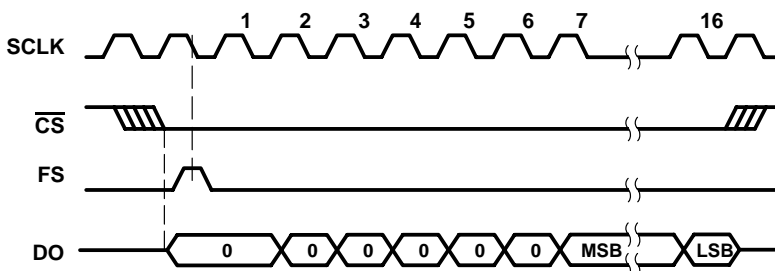
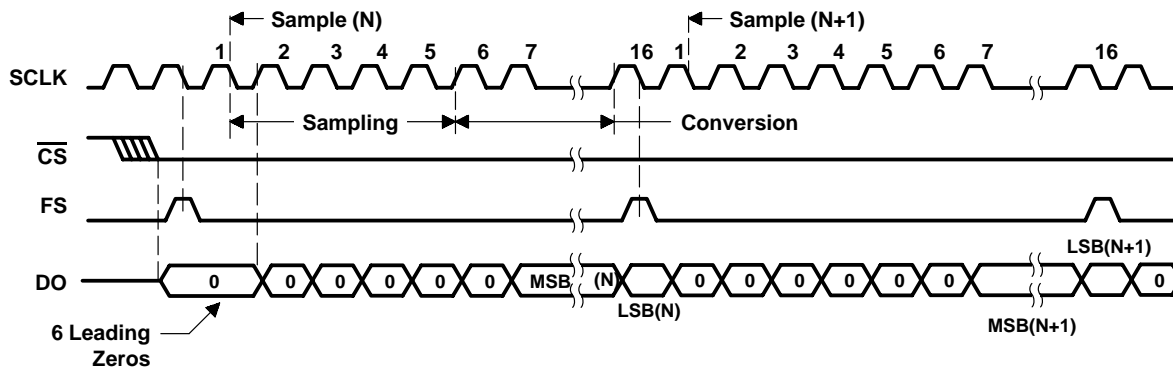
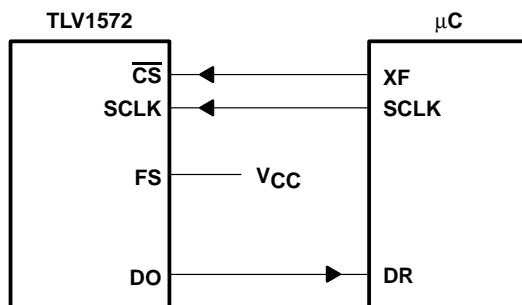

Figure 4. Typical Timing Diagram for DSP Application
Figure 6. DSP Application Timing (Continuous Conversion)
Figure 7. μ C to TLV1572 Interface
The TLV1572 goes into auto-powerdown after the LSB is shifted out. The next FS pulls it out of auto-powerdown as shown in Fig. 6. If the FS comes on the 16th bit, next conversion cycle starts from next rising edge of the SCLK allowing back to back conversions as shown in Figure 7. An FS in the middle of a conversion cycle resets the chip and starts a new conversion cycle. Therefore variable-bit transfer is supported if the FS appears earlier.
For applications where the analog input must be sampled at a precise instant in time, the data conversion can be initiated by an external conversion start pulse which is completely asynchronous to the SCLK as shown in Figure 4. When a conversion start pulse is received, the pulse is used as a Frame Sync (FS) signal to initiate the data conversion and transfer. The corresponding timing diagram is shown in Figure 6.